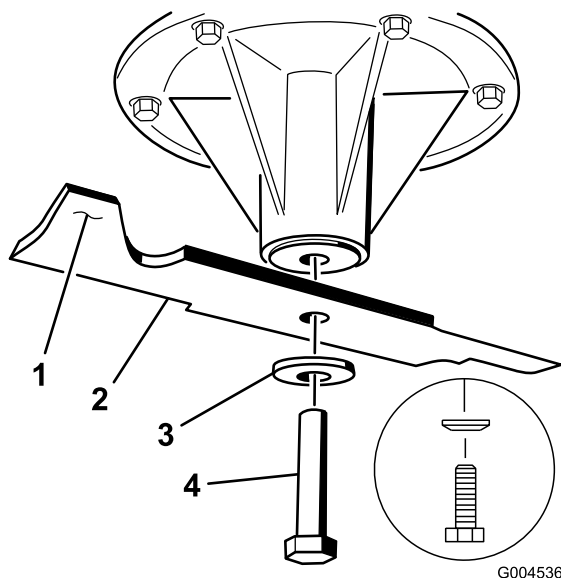

Figure 95
blade is not balanced, file some metal off the end of the sail area only (Figure 95). Repeat this procedure until the blade is balanced.
1. Install the blade onto the spindle shaft (Figure 95).
2. Install the spring disk and the blade bolt. The spring disk cone must be installed toward the bolt head (Figure 95). Torque the blade bolt to 115 to 150 N-m (85 to 110 ft-lb).